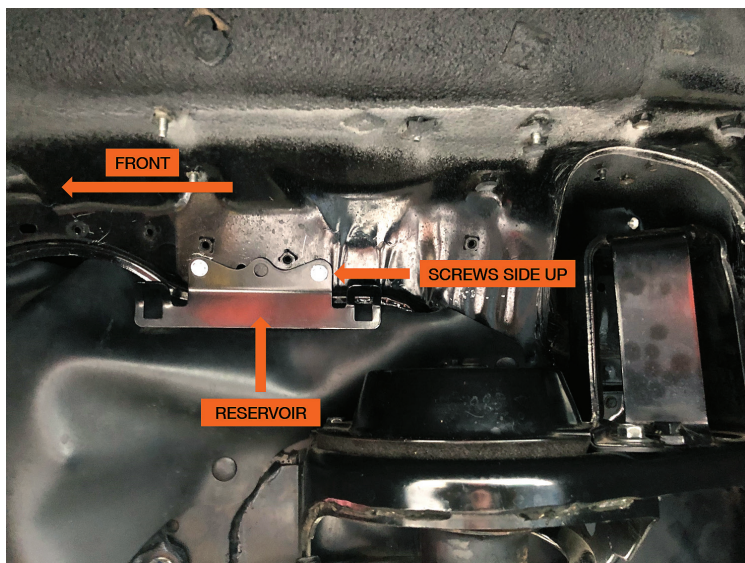

Figure 2: Front reservoir bracket orientation
- d. Secure the bracket using the supplied 1/4" self-tapping screws. Ensure proper orientation by checking that the reservoir mounting portion of the bracket is below the mounting holes (Figure 2).